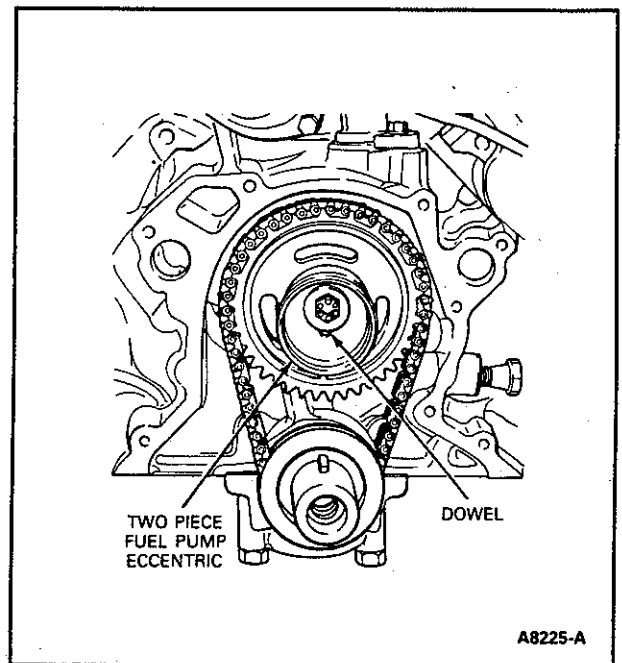

Figure 57 Fuel Pump Eccentric Installed
2. Install the fuel pump eccentric, washers and camshaft sprocket cap screw. Torque the sprocket cap screw to specifications (Figure 57).